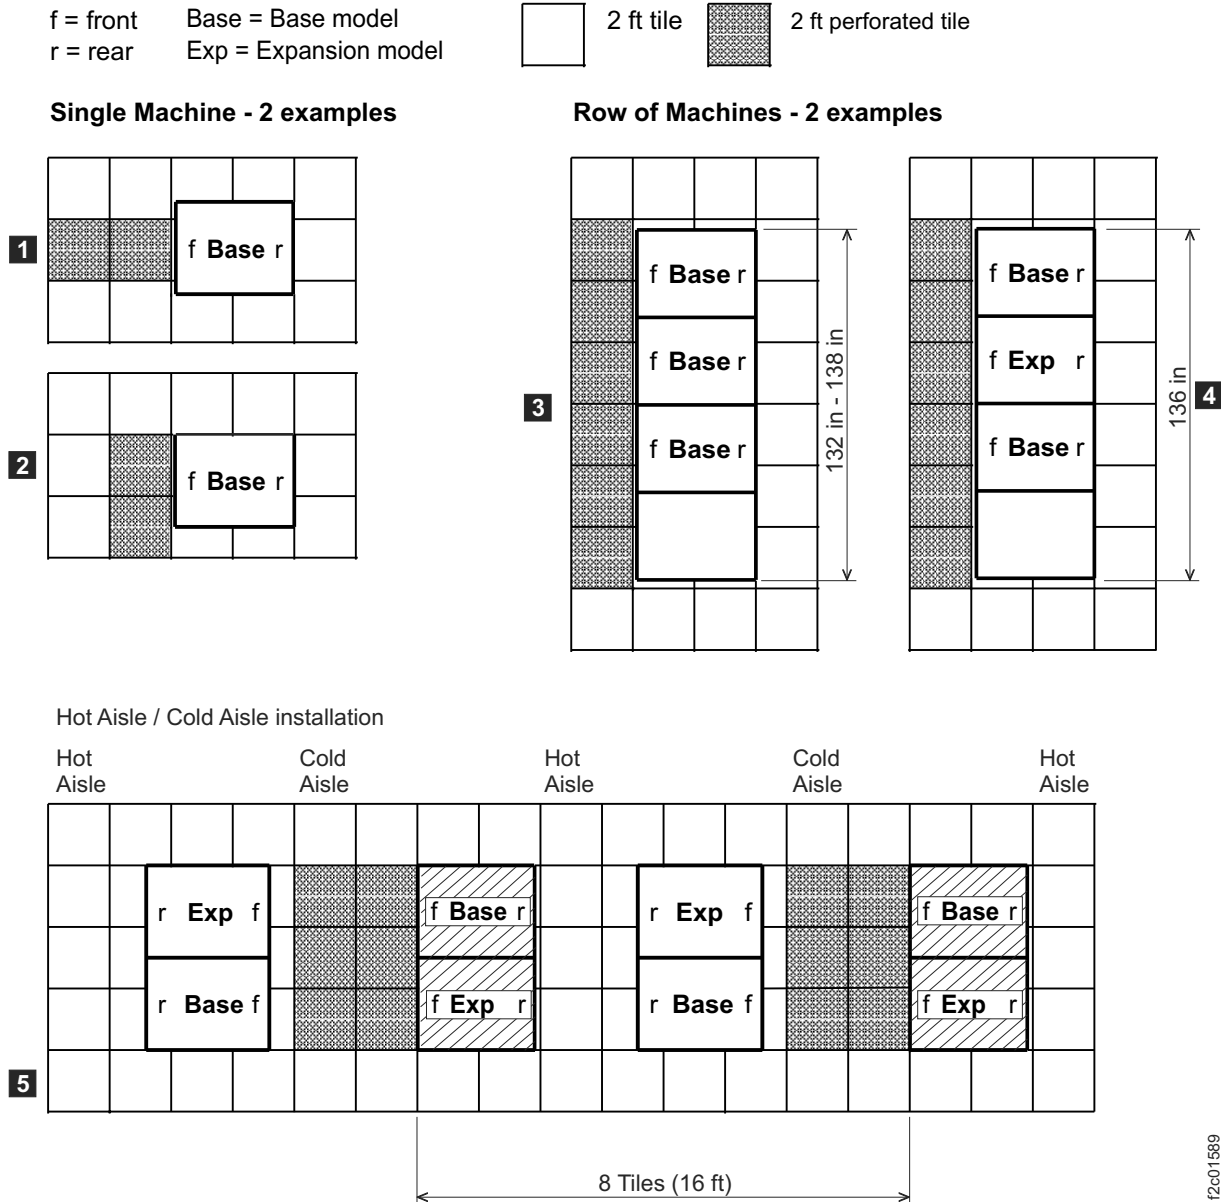

Figure 29. DS8000 layouts and tile setup for cooling
**Note:** Keep in mind that the dimensions represented in Figure 29 on page 171 might not be adequate for floor-load requirements.
- a. For a stand-alone base model, install two fully perforated tiles in front of each base model, as shown in Figure 29 on page 171 in the single-machine examples (1 and 2 in the figure).
- b. For a row of machines, install a row of perforated tiles in front of the machines as shown in Figure 29 ( **3** and **4** in the figure).
- c. For groupings of machines, where a hot aisle/cold aisle layout is used, use a cold aisle row of perforated tiles in front of all machines. A possible minimal configuration is shown in Figure 29 ( **5** in the figure).
**Note:** Keep in mind that the dimensions represented in Figure 29 might not be adequate for floor-load requirements.